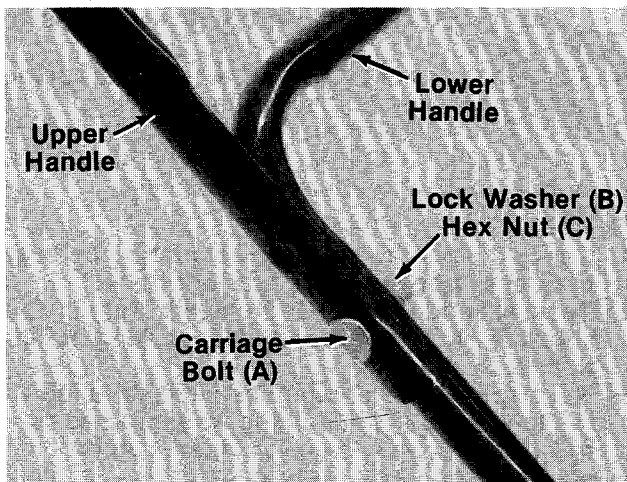
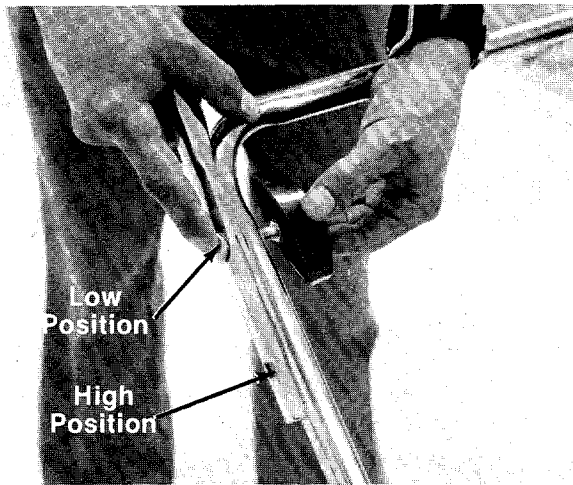

FIGURE 3.
FIGURE 16.
- ← 4. There are two height positions for the handle. Place upper handle in position over lower handle, selecting hole for either high or low position. Refer to figure 16. Secure upper handle with two curved carriage bolts (A), lock washers (B) and hex nuts (C). See figure 3.
The upper handle can be adjusted to a high or low position. The adjustment is made by removing the two knobs or hex nuts and lock washers, removing the two curved carriage bolts and reassembling in the other position. See figure 16.